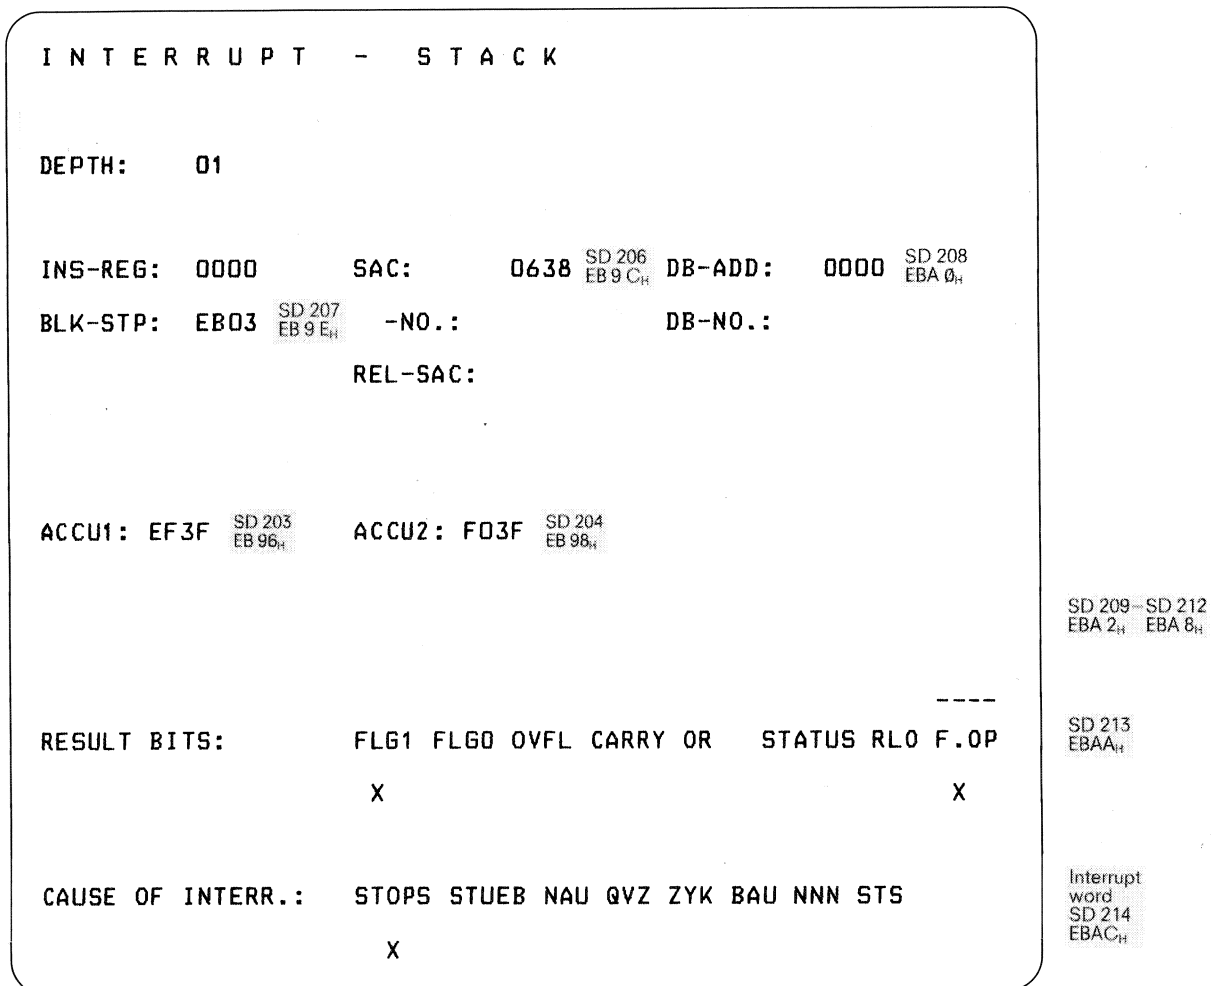

Fig. 23b Interrupt stack, part 2
2. The interrupt stack proper is output in the second part of the ISTACK (Fig. 23b)